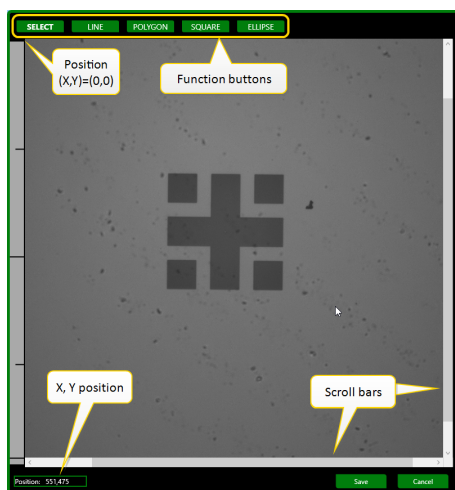

Figure 3-50 Draw window after opening
2. Press **Draw mode** to open the draw window, see **Figure 3-50 on the next page**.